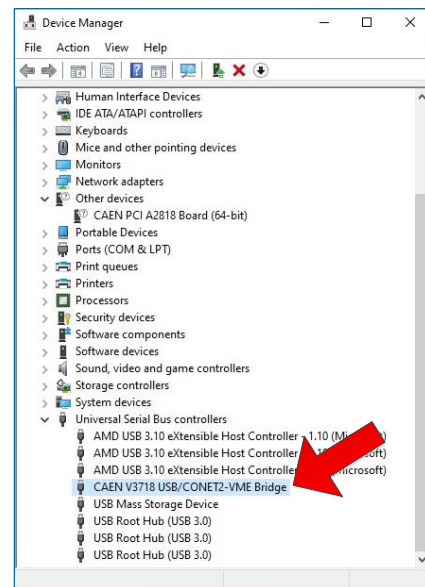

Fig. 11.6: USB Driver Installation: step
6. Check for the new hardware in the Universal Serial Bus controllers list of the Device Manager (**Fig. 11.6**).